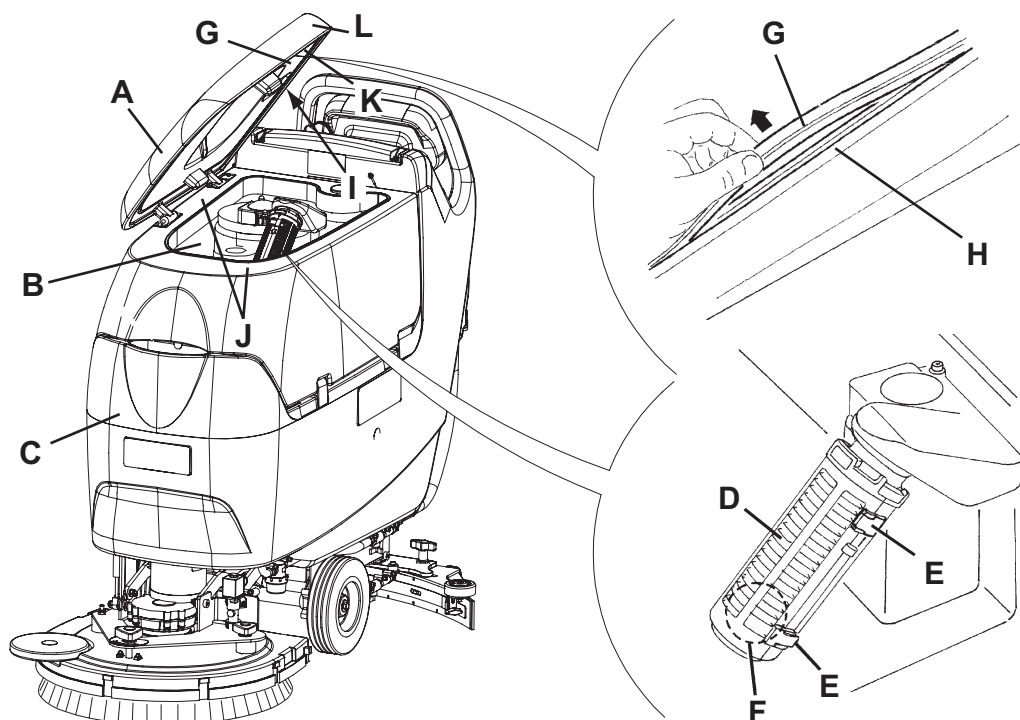

Figure 6
3. Open the cover (A, Fig. 6) to washing position (L).
4. Wash with clean water the cover (A), the tanks (B and C) and the vacuum grid with automatic shut-off float (D).